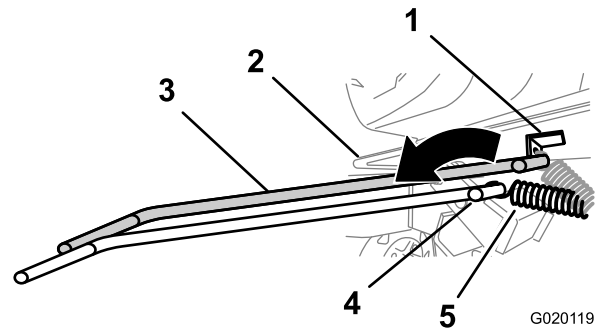

Figure 50
- Using a spring-removal tool, (Toro part 92-5771), remove the spring from the anchor bracket on the engine deck (Figure 50).
7. Using a spring-removal tool, (Toro part 92-5771), install the tension spring to the anchor bracket on the engine deck (Figure 50).